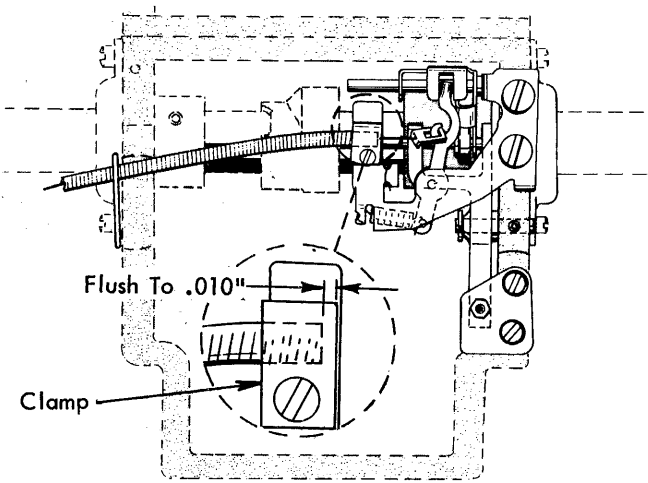

FIGURE 142.6 Carrier Cable Clamp
- a. Carrier Cable Clamp - Loosen the clamp screw and slide the cable sheath left or right under the clamp until the end of the sheath is flush to .010" recessed with the right hand edge of the clamp (Fig. 142.6). This adjustment prevents the yoke actuating lever from choking off against the cable sheath.